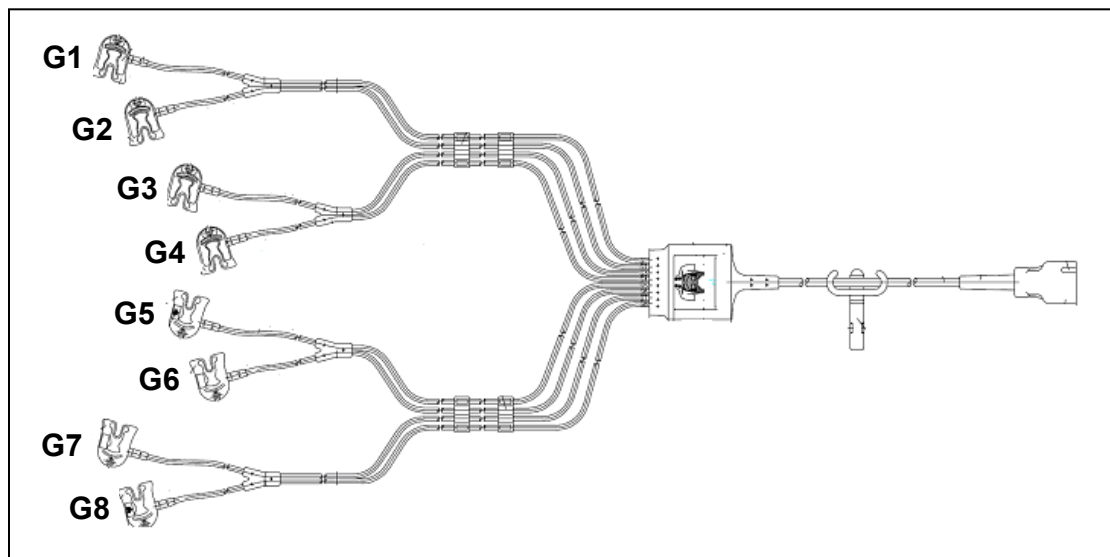

Figure 6-3. ICG Patient Cable AN4700-AC030
- Patient Cable AN4700-AC030 (Figure 6-3)
- Four (4) #8 Machine Screws (at least 2-inches long)
- Eight (8) Alligator Clips
Figure 6-3 illustrates the relative arrangement of the 8 leads of the Patient Cable that are maintained in their relative configuration by the cable organizer.
The leads are terminated in colored grippers, and are identified in Fig. 6-3 as G1 through G8. The table that follows indicates the length of each lead, from cable organizer to the gripper, as well as the color of the gripper and location of the electrode to which it is connected (by the gripper) when used in patient monitoring.
3	Refer to Figure 6-3 for gripper identification. Connect the designated grippers to the machine screws.